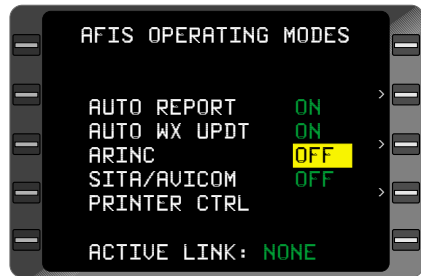

Figure 7-123
4. Line Select Key - DEPRESS to position cursor over **MAN** or **OFF** option of ground network field. (Figure 7-123)